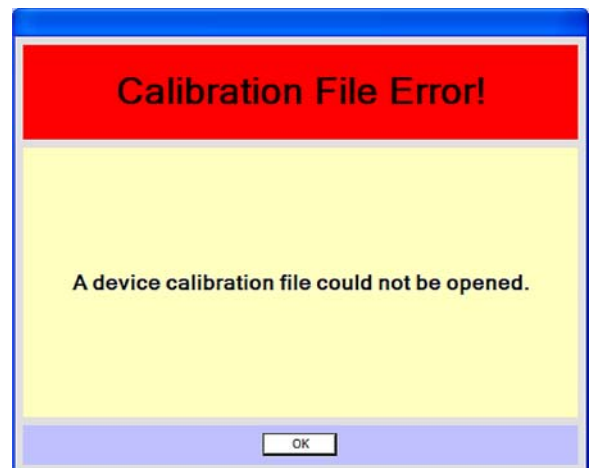

Figure 9. Calibration File Error
2. When a **Calibration File Error!** message appears, as shown in Figure 9, click **OK**.